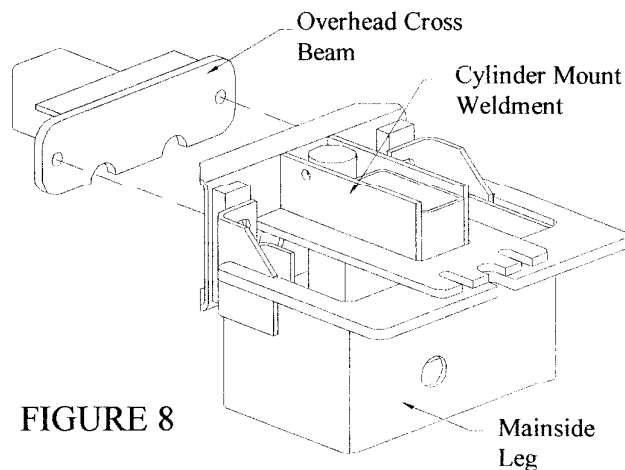

FIGURE 8
13. Raise the overhead beam and secure it to the top of the legs using the two 1/2 x 2-1/2 NC bolts that already secure the front of the cylinder mount weldment to the leg. See Figure 8.